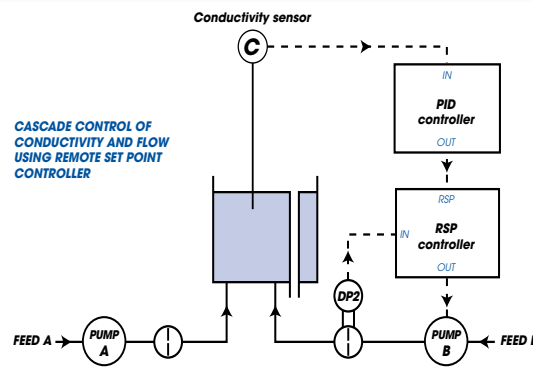

Fig 2: Cascade control of conductivity and flow
- > Cascade control of conductivity and flow (Fig 2)